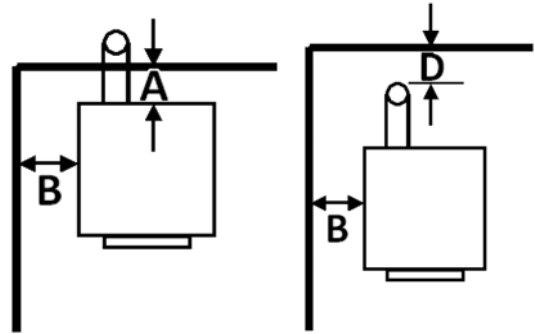

Figure 1
The ECO-35 has been tested and listed for installation in regular and mobile homes.(refer figure 1 & 2)
1. Position stove, adhering to clearances shown in Figures 1 & 2.